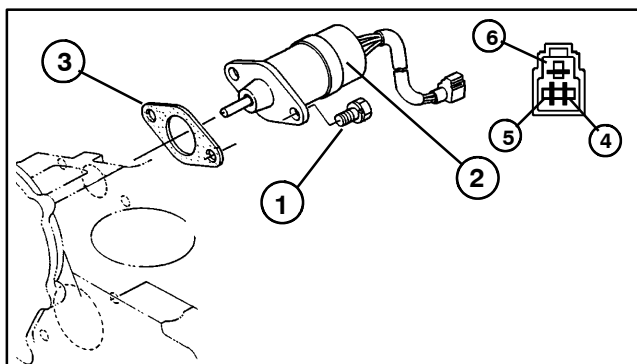

Figure 31
2. Using a digital multimeter, touch one test lead to the pin of the **black** wire and the other test lead to the pin of the **white** wire (Fig. 31). The resistance of the **pull coil** should be about 0.33 ohms.
3. Using a digital multimeter, touch one test lead to the pin of the **black** wire and the other test lead to the pin of the **red** wire (Fig. 31). The resistance of the **hold coil** should be about 12.2 ohms.